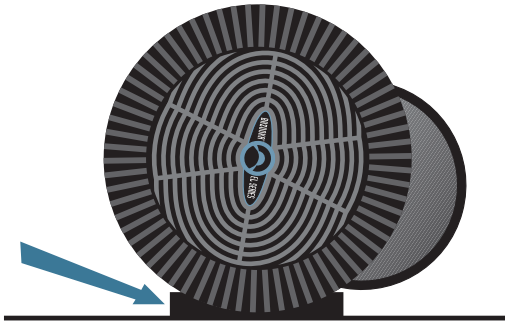

Figure 7
3. Place each mounting base under the Bazooka so that the apex at the bottom of the tube sits inside the mounting base as in figure 7.